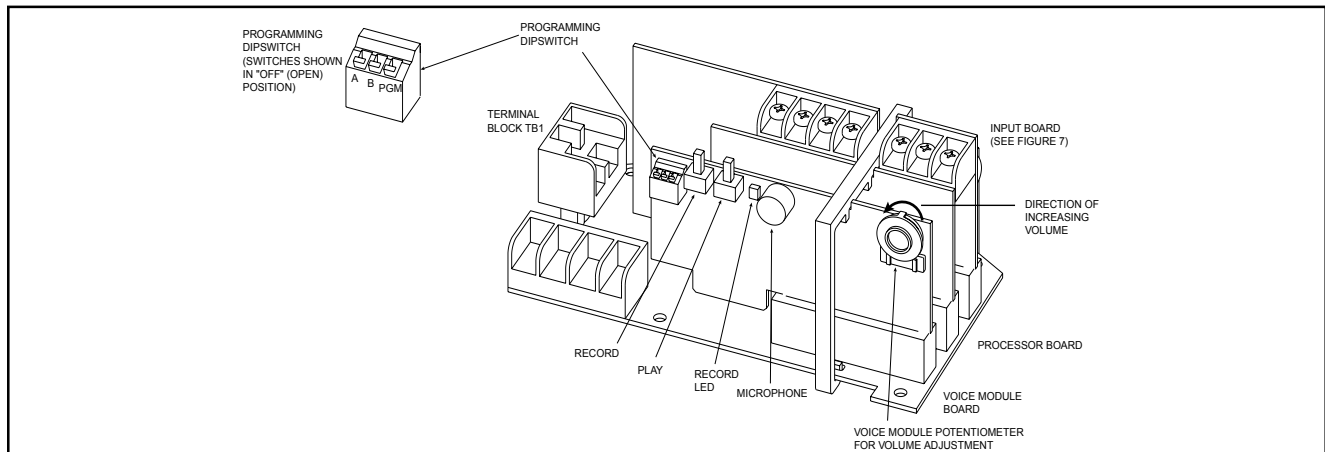
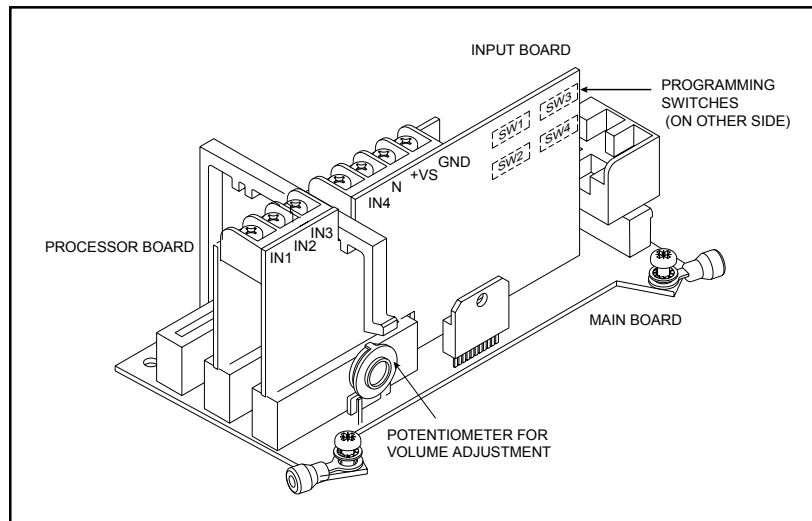

Figure 2. Voice Module Board
Figure 13. PC Board Locations
Four five-second messages (or one twenty-second message) can be recorded on the voice module unit. Refer to Figure 2.
- Put switches A and B on the programming dipswitch in the proper position for the message to be recorded (Figure 2). For programming a message longer than five seconds, use Message Location 1.
- Put switch PGM on the programming dipswitch in the "CLOSED" position for programming mode (Figure 2).
- Adjust the volume as necessary. Set the main volume using the potentiometer on the main board (Figures 13 and 14) and then set the voice volume using the potentiometer on the voice module board (Figure 2).
- 4. Refer to Figures 13, 14 and 15 and select desired tones. Set miniature programming switches on the input board.
- 5. Adjust volume level, if desired, by turning potentiometer located on the main board (Figures 13 and 14).